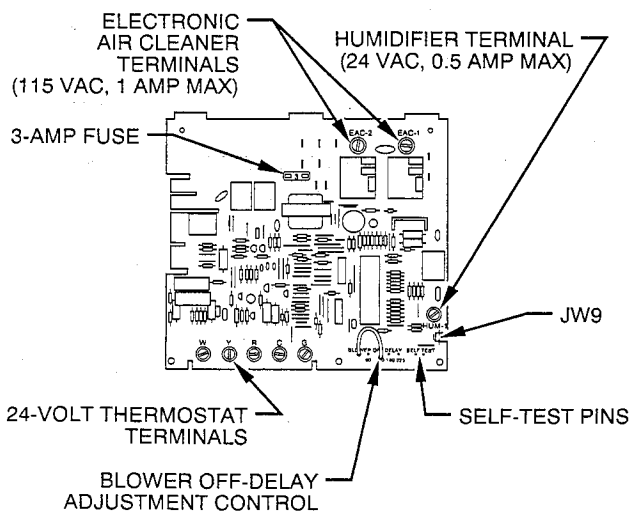
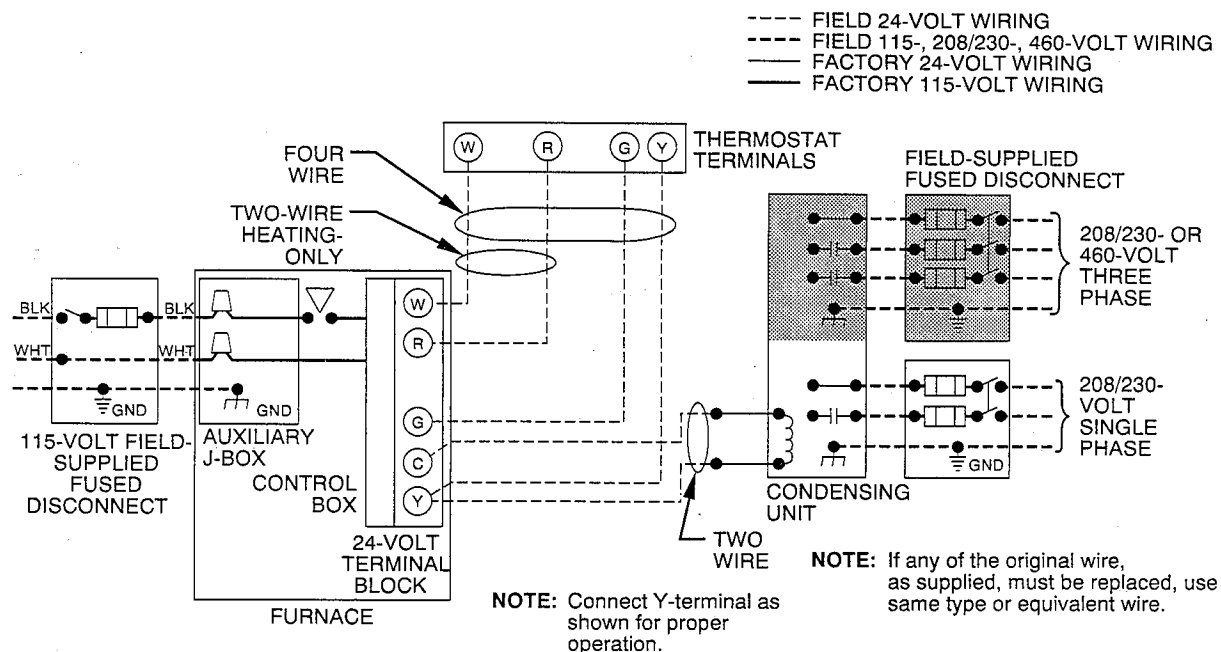

Fig. 11—Control Center
Fig. 12—Heating and Cooling Application Wiring Diagram
24-V WIRING — Make field 24-v connections at the 24-v terminal strip. (See Fig. 11.) Connect terminal Y as shown in Fig. 12 for proper operation in cooling mode. Use AWG No. 18 color-coded wire only.
1. Self-test—The furnace features a self-test system to help diagnose a system problem in the case of a component failure. Two test pins (ST-1 and ST-2) are located in the lower right-hand corner of the control board as shown in Fig. 11. To initiate the self-test procedure, momentarily short across the 2 pins for approximately 0.5 sec.